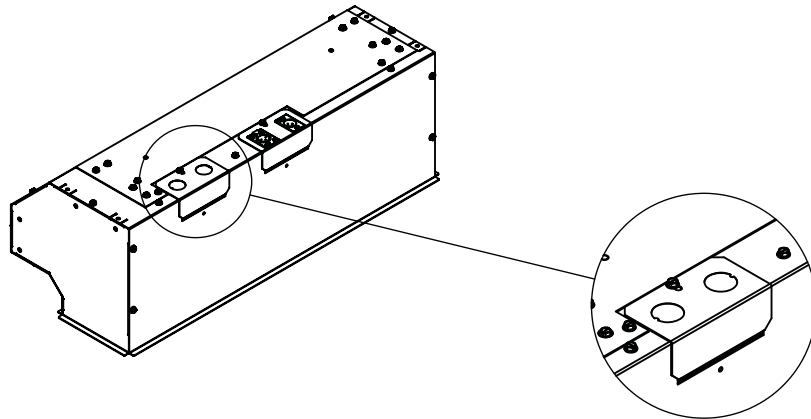

Figure 1
2. Prepare the line voltage wiring to the fixtures. You may want to partially install the power wiring before the fixture is placed in the T-track, if access is difficult. Ensure that the supply voltage matches that required by the ballasts. To install the power feed, loosen the screw holding the power entry plate and remove the plate (Figure 1). Remove the knockouts as needed and install the correct type of power cabling and strain relief (not provided). Connect the wires from the feed using wire-nuts, observing the wire color coding, and re-install the knockout plate. Brightline fixtures intended for the North American market use black/white/green wires respectively for line/neutral/ground; fixtures shipped to other locations use brown/blue/green-yellow for line/neutral/ground. In most cases, it is useful to install sufficient slack in the power cable so that the fixture may be moved to an adjacent tile opening without having to extend the wiring.